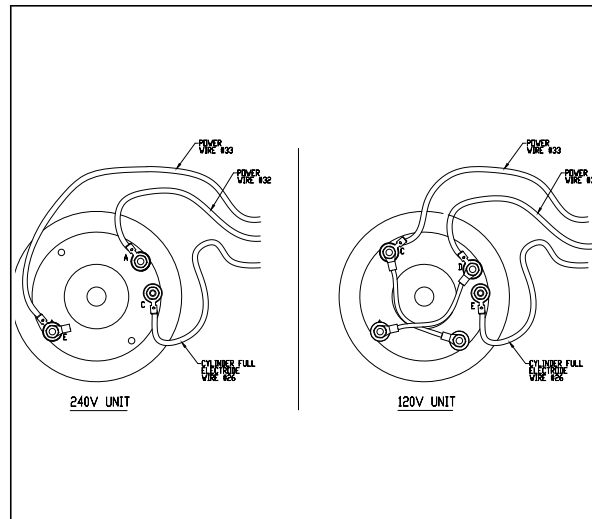

Figure 12B
2. Turn off power to the unit at the external disconnect. Disconnect electrode power wires (#32 & #33) and cylinder full electrode wire (#26) from the cylinder. These connections are 1/4" quick connects. (See Figures 12B, 12C, and 12D.)
7. Reconnect electrode power wires (#32 & #33) and cylinder full electrode wire (#26). Make sure that all electrical connections are securely tightened. (See Figures 12B, 12C, and 12D.) Replace cover and four screws.
Check cylinder connections. (See Figure 12B.)